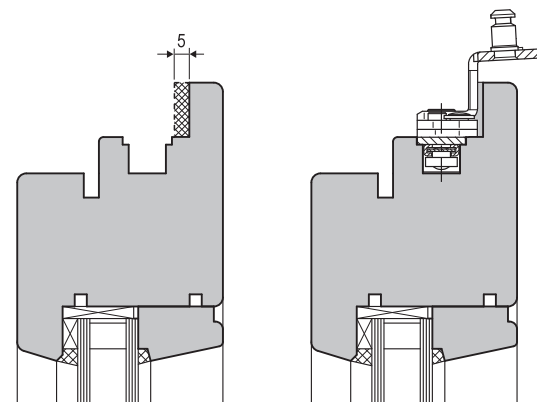

fig. 2
- 1) Adjust the jig art. M02030.00.01 (fig. 1) to match the rebate of the sash, keeping in mind that the play of the hinges for the upper corner movements is 5 mm from the edge of the groove that houses the hardware (fig. 2).